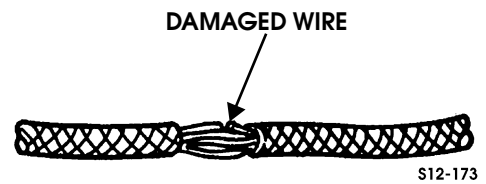

Figure 12-15: Damaged Wire
1. Remove harness covering in the affected area (Figure 12-15).